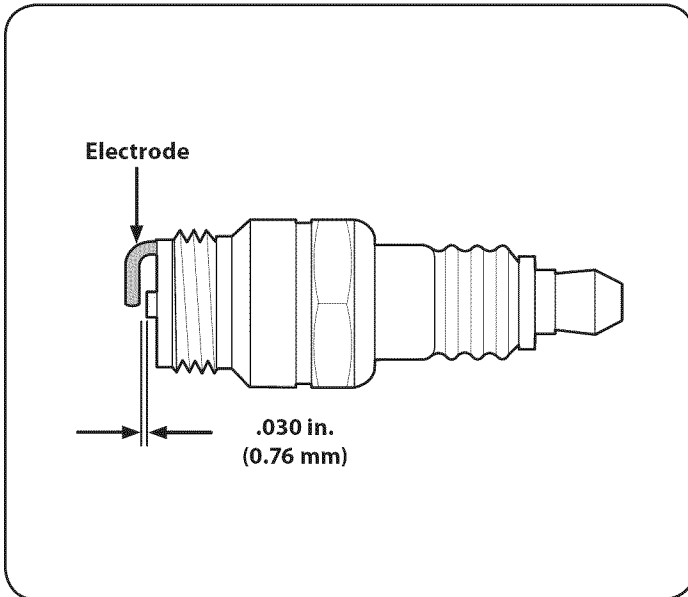

Figure 27
3. Measure the plug gap with a feeler gauge. Correct as necessary by bending the side electrode, Figure 27. The gap should be set to .02-.03 inches (0.60-0.80 mm).